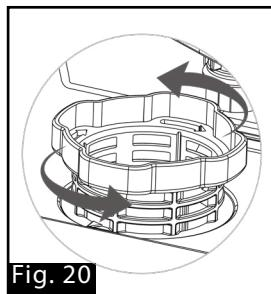

Fig. 20
1. Take the filtration system out. Turn the cylinder filter counterclockwise (Fig. 20).